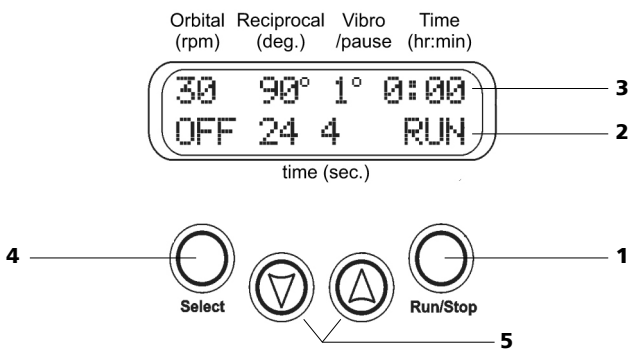

Fig. 1
Press the RUN/STOP key (1 / Fig.1) to start the program.
The platform motion begins, and the display shows the corresponding indication RUN (2 / Fig.1) and the changing time values.
If the operation time is not set and the timer indicator (3 / Fig.1) shows 0:00, pressing the RUN/STOP key will activate continuous mode until the Run/Stop key is pressed again.
To change the parameter, press the SELECT key (4 / Fig. 1) (the active parameter will flash in the display), then use the UP and DOWN keys (5 / Fig. 1) to select the required parameter (Note: if the key is pressed and held for more that 2 seconds the numbers change quickly).